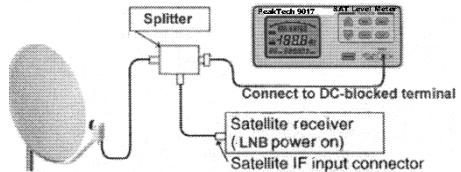

Fig. 3-2 Powered by Satellite Receiver
b. Powered by Satellite receiver: Use "Splitter with DC-block" for connecting this meter and Satellite receiver. (See figure 3-2)